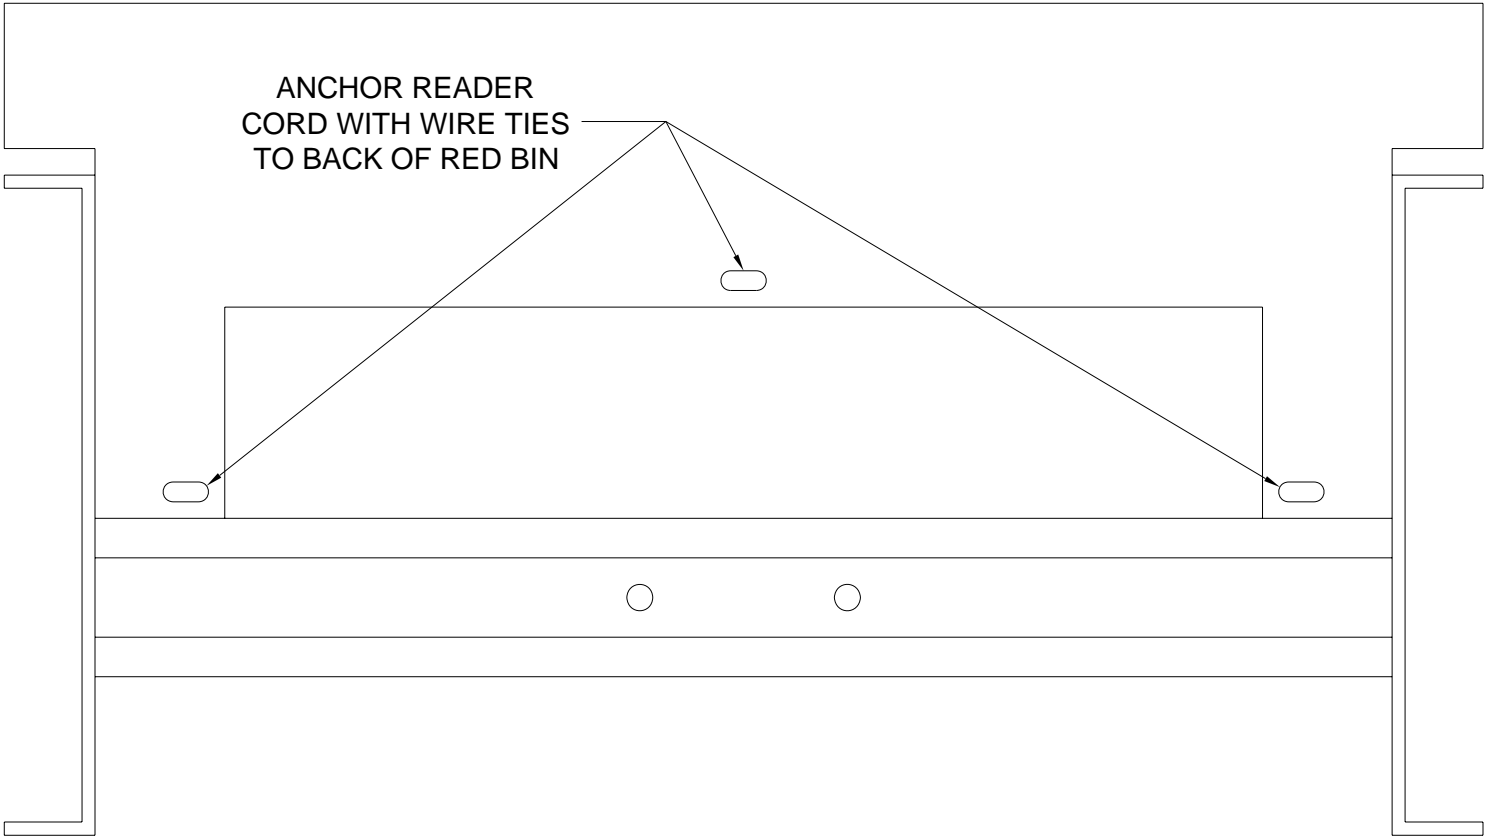

FIGURE 3
18. Using the wire ties provided, tie off the cable at the red drawer bin end to avoid it getting caught on the internal components as the drawer moves in and out (Figure 3).